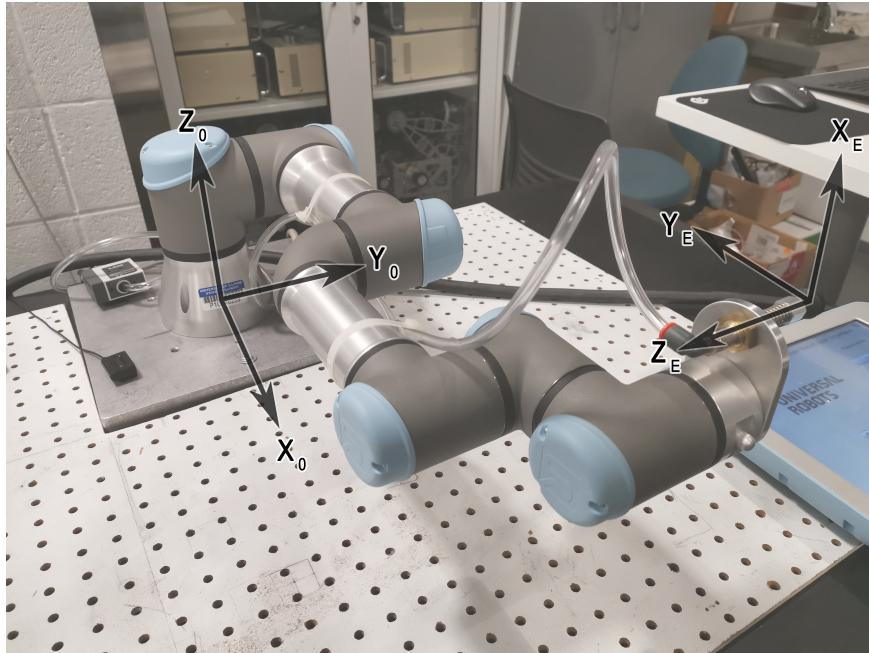

Figure 4.1: zero configuration and frame placement for UR3.
Virtually, You can define the base frame, the end-effector frame, and zero configuration arbitrarily. As long as you remain consistent with your definitions, the end results will be identical for the same robot. However, doing so will post difficulties when your TA tries to verify your answer or debug your process. Therefore we encourage you to use the same frame placement and zero configuration for both convenience and safety purposes. See Figure 4.1.
Moreover, please note that in this lab, all the UR3 robots have a pre-defined zero configuration. The pose shown in Figure 4.1 is **NOT the TRUE zero configuration** according to the teach pendant. In this pose (Figure 4.1), you would read the following joint angles from **the teach pendant**:
Any joint angle measurements from the robot that are passed to your ROS program will be corrected to the zero configuration shown in Figure 4.1. In other words, now if you set all the joint of UR3 to zero (zero configuration) in **ROS**:
You would see the UR3 poses as Figure 4.1 showed.
- The screw axes S_1 to S_6 (we have six here because UR3 has six joints) expressed in the base frame, corresponding to the joint motions when the robot is at its zero configuration (aka Figure 4.1)